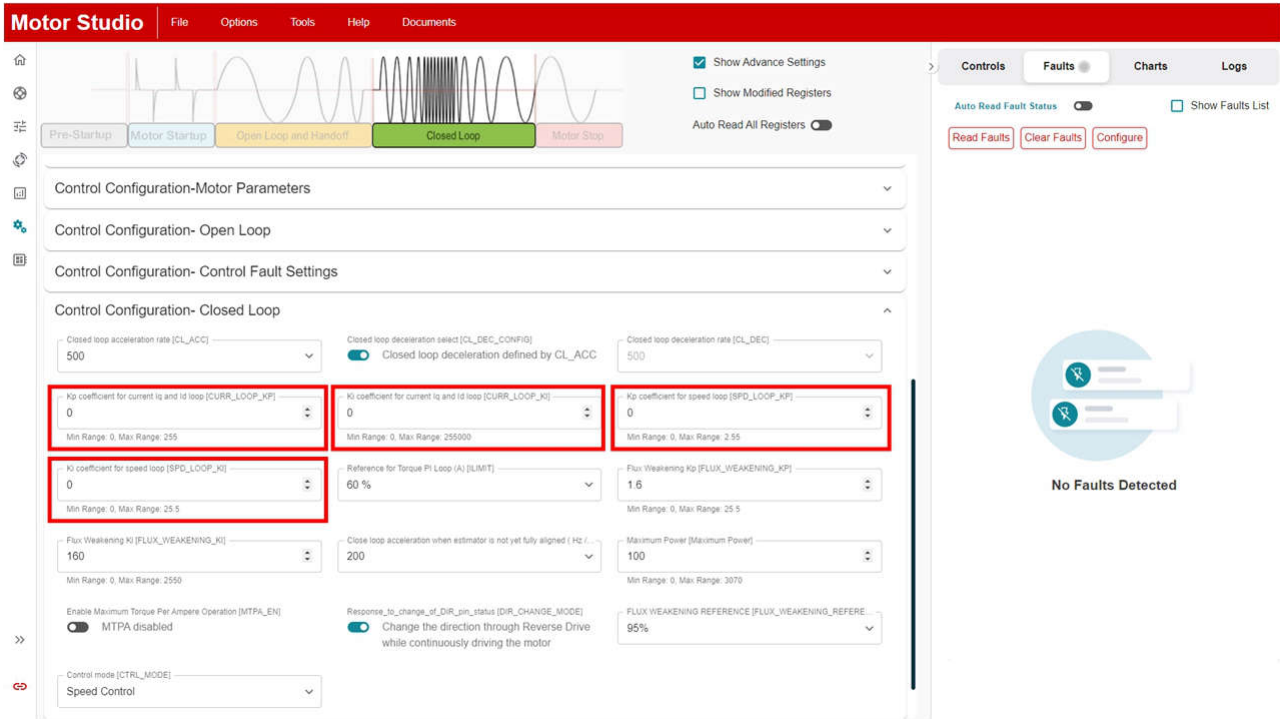

Figure 6-5. HW_LOCK_LIMIT
- Using the fields circled in Figure 6-5, set SPD_LOOP_KP, SPD_LOOP_KI, CURR_LOOP_KP, and CURR_LOOP_KI to zero. This enables the MCF8329A to automatically calculate the speed loop and current loop PI controller gains.